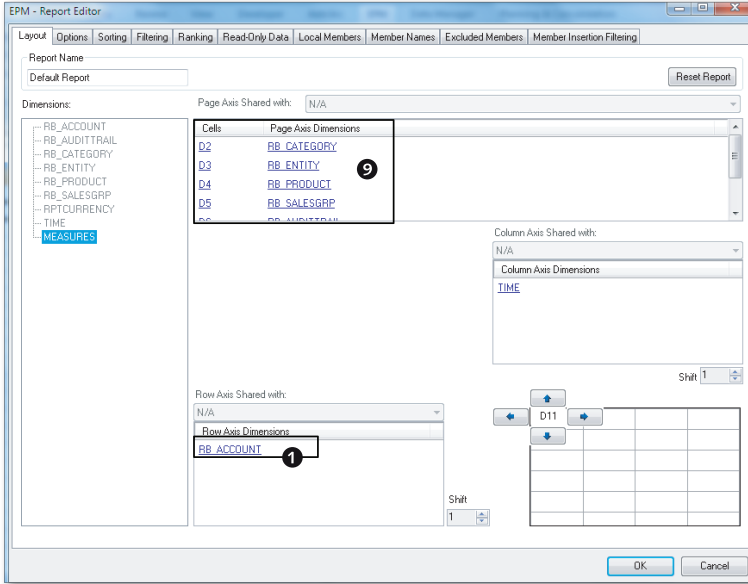
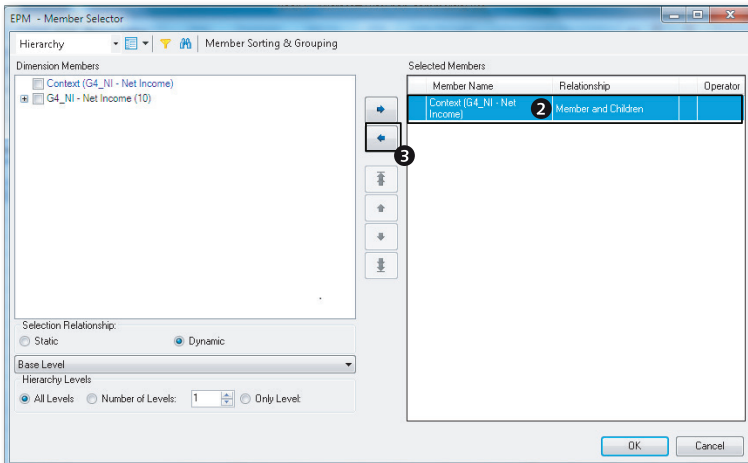

Figure 5.9 EPM Member Selections for Report—Part A
Figure 5.10 EPM Member Selections for Report—Part B
1. After connecting to a model, click on the NEW REPORT command under the REPORTS group in the EPM ribbon to create a new report. You are presented with the EPM – REPORT EDITOR dialog box (Figure 5.9) where you design the report. In the LAYOUT tab, you identify the dimensions in the row axis, column axis, and page axis.
2. Click on the dimension selected in the row or column to set selections for the dimensions (Figure 5.9, ❶). You will see that the member and children of the dimension member that is selected in the EPM CONTEXT pane for that dimension is included in the EPM – MEMBER SELECTOR dialog box (Figure 5.10, ❷). This is the default selection for the dimension.
- Let's assume that you don't want to use the member in the EPM CONTEXT pane as the selection for your report and instead want to make your own selection. First, remove the default selection by selecting the member and clicking on the arrow to remove it from the SELECTED MEMBERS list (Figure 5.10, 3).
7. Optionally, you can include dimensions not included in the row axis and column axis in the page axis (refer to Figure 5.9, 9). Dimension members can be selected for those dimensions included in the page axis. The selection of dimension members at the page axis level provides an additional filter for the report. More than one member can be selected by checking the ALLOW MULTI-SELECTION box in the dialog box that is displayed for selecting dimension members. However, the system does not provide the option to specify member relationships for dimensions in the page axis.